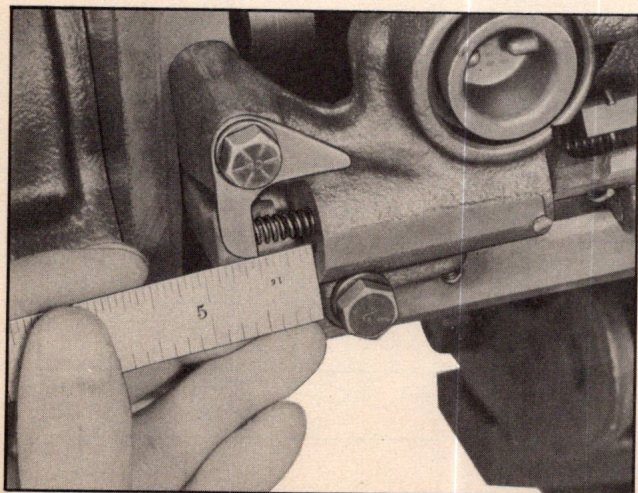

Fig. 313—Checking Parking Blocker Return Spring Stop (Early type)
2. Check position of the parking blocker return spring stop if early type spring stop is used. Spring seat surface of early type stop should be $\frac{1}{2}$ " to $\frac{1}{32}$ " from the face of the parking brake bracket assembly (Fig. 313). This measurement should be $\frac{5}{8}$ " when the late type parking blocker return spring stop is used.